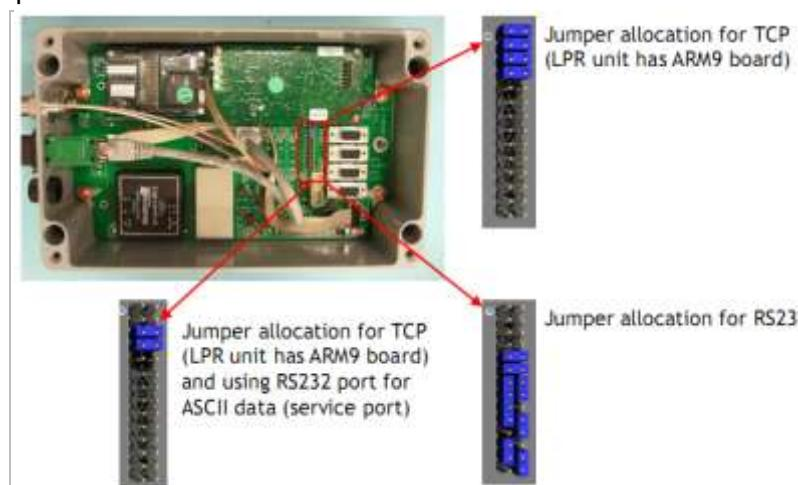

Figure 45 Jumper allocation inside the LPR-B station
- 2) If you have LPR-B station with TCP/IP interface you also can connect the serial cable to the parameterization port (S4). It is not possible to send data to the LPR-B station then but you can receive data. Normally “m” should appear for a working measurement. If “m” appear then in general the system is working but something is wrong with forwarding the data to the TCP/IP interface. Check the settings in the web interface (compare chapter 8.5.5). Compare also the settings for the jumpers (compare Figure 45). Only in the picture “Jumper allocation for TCP (LPR unit has ARM9 board)” both ports are available at the TCP/IP interface. If using the jumper allocation on the left side (2 jumpers) only the binary port is available via TCP/IP. If using the Jumper allocation for RS232 no data can be available at a TCP/IP interface (normally the station then has no TCP/IP interface).